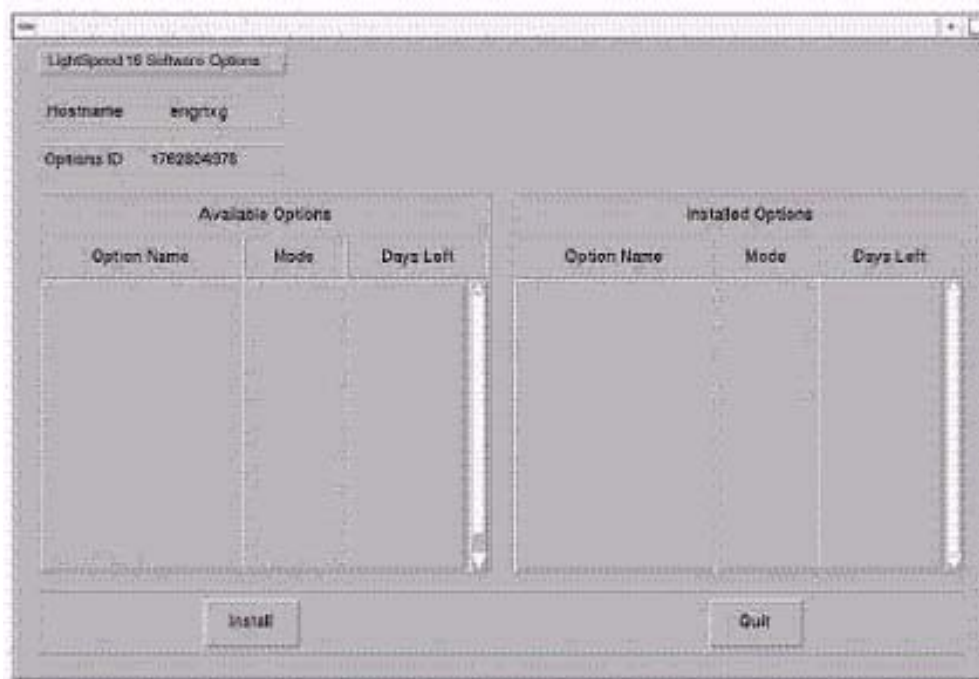

Figure 6-18 Install Options screen
- 4.) Select INSTALL OPTIONS. A blank Software Options screen (Figure 6-18) appears.